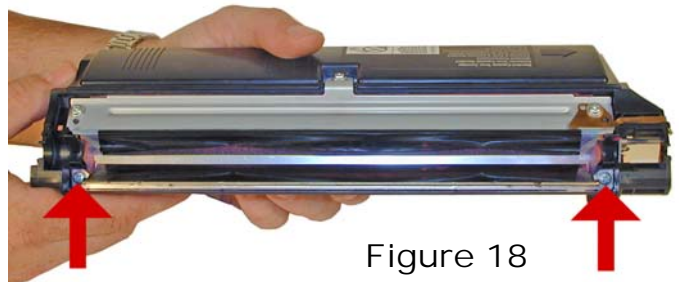

Figure 18
12) Remove the two screws from the "first" doctor blade. (The second doctor blade is located under the feed roller). Remove the doctor blade. See **Figure 18**